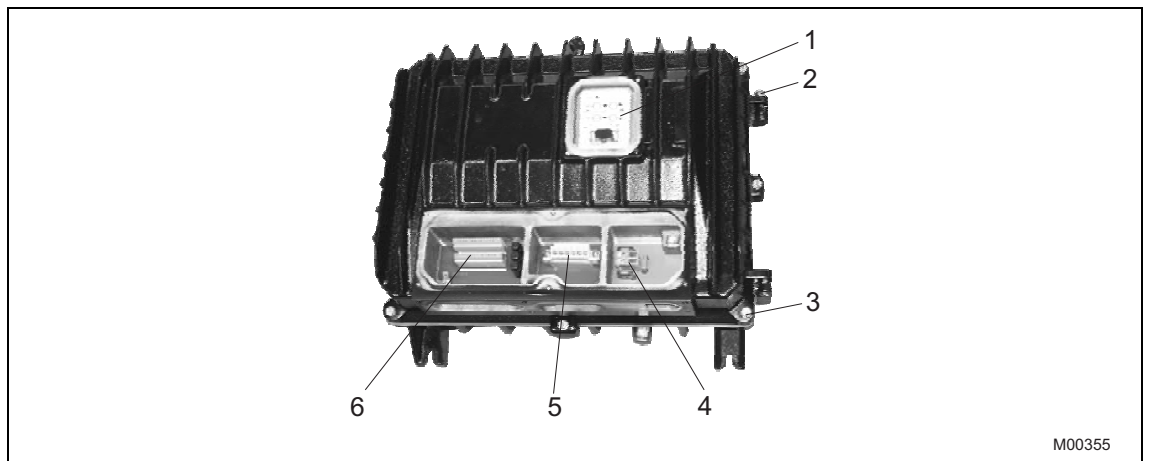

Fig. 10: EBS862 connection space
2. Unscrew and remove the cover screws (Fig. 10, item 3).
6. Unscrew and remove the hinge screw (Fig. 10, item 2).
3. Close the housing, insert the cover screws (Fig. 10, item 3), and connect the cable.